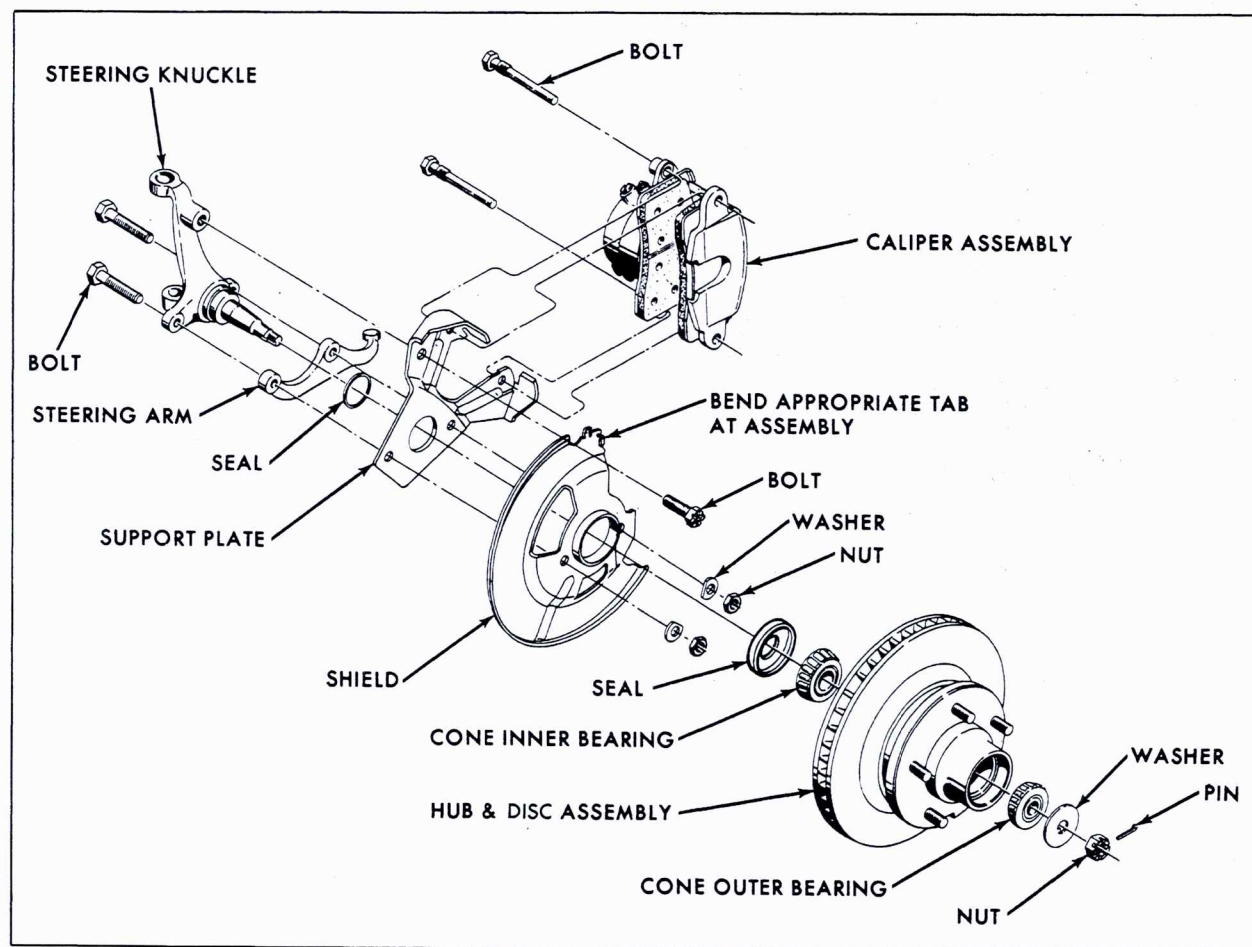

Fig. 3-25 Front Wheel Disassembled
5. Remove hub and disc, Fig. 3-25.
4. Install two bolts through lower end of steering knuckle, with bolt heads against mounting boss of steering knuckle, Fig. 3-25.
NOTE: Install bolts with bolt heads against mounting boss of steering knuckle, Fig. 3-25.
Tapered roller bearings are used in the front wheels, Fig. 3-25.
5. Remove dust cap, cotter pin, spindle nut, washer, and outer cone and roller assembly, Fig. 3-25.